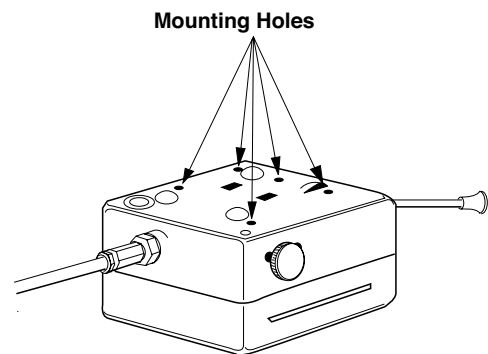

Figure 3
3. Remove the controller cover, and while holding the controller in place, select at least two holes through the case which best mount the controller. Mark the underside of the instrument panel through these holes. (See Figure 3)